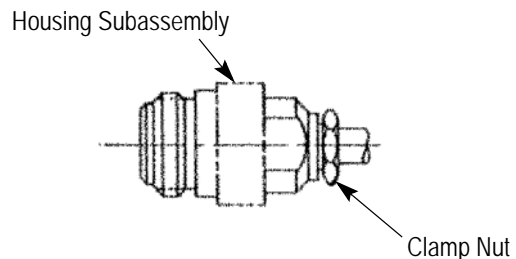

Figure 6
**2.4. Assembling the Clamp Nut into the Housing Subassembly (Figure 6)**